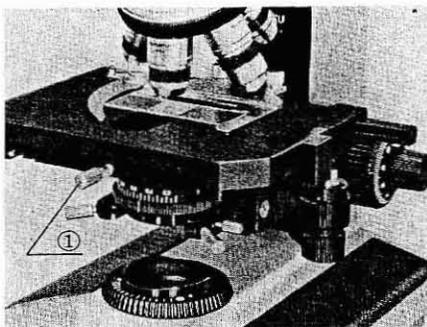

Fig. 9
3) Bring the portion of the specimen to be observed into the light path by means of the low drive stage control knobs. (Fig. 9)
- ★ Tighten the stage clamping screw ① .